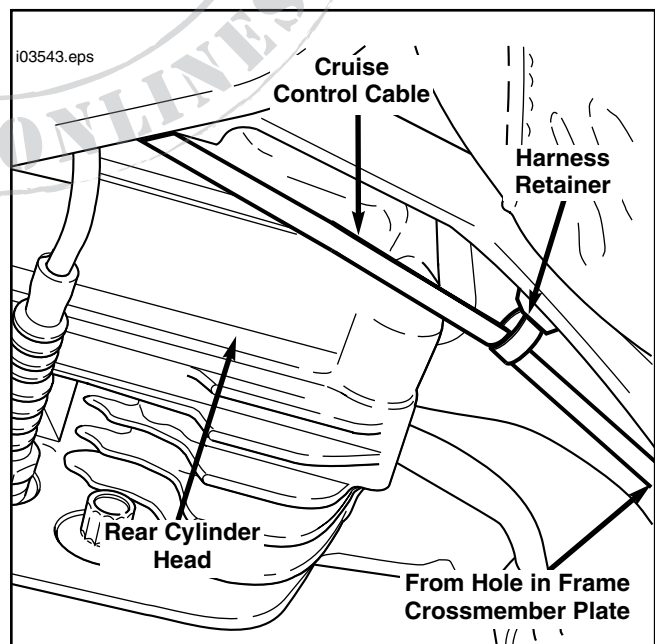

Figure 2. Routing Cruise Cable from Cruise Control Module to Carburetor or Induction Module (Left Side View)
6. See Figure 2. While holding cruise control module in place near its mounting location, feed the cruise control cable through the hole in frame crossmember plate and route under rear spark plug wire staying on inner side of fuel line components. Carefully curve cable toward the right and continue routing up under the fuel tank and over the top of the engine stabilizer bracket, then down between cylinder heads. Leave in place temporarily. See Service Parts Illustration and obtain a harness retainer (4) from kit and secure the cruise cable to crossmember plate with barb as shown. On California models, remove the EVAP hose from cable clip and secure hose with one of the cable ties (6).